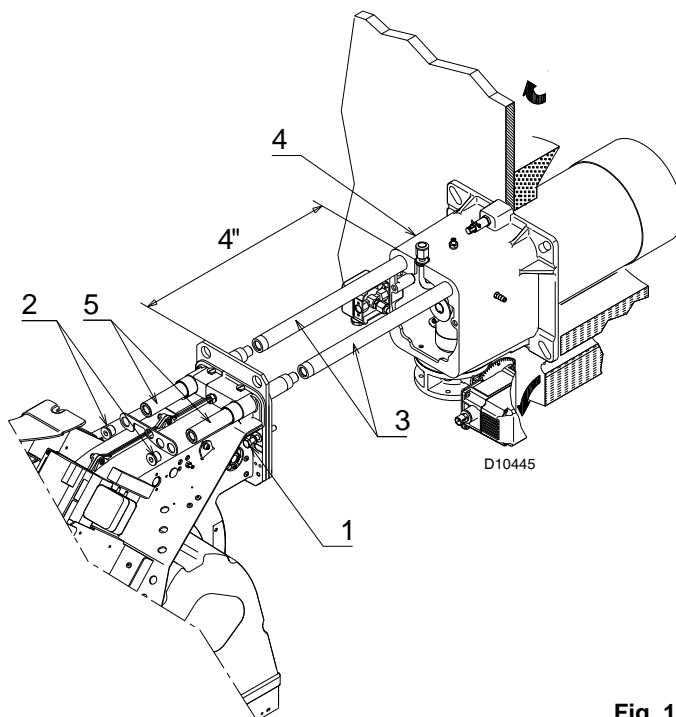
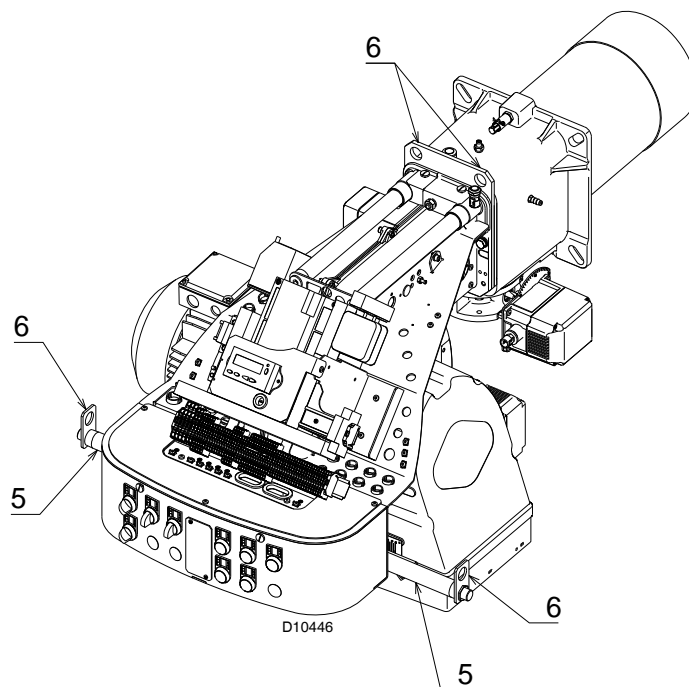

Fig. 18
Fig. 19
- push the burner on the sliding bars 3) at approximately 4" from the pipe coupling 4) - burner in the position shown in Fig. 18;
- insert the electrode cable, then slide the burner as far as the pipe coupling - burner in the position shown in Fig. 19;
- unscrew the 2 screws 2) from the extension 5) and reposition them as previously Fig. 19.
Key (Fig. 18 and Fig. 19)